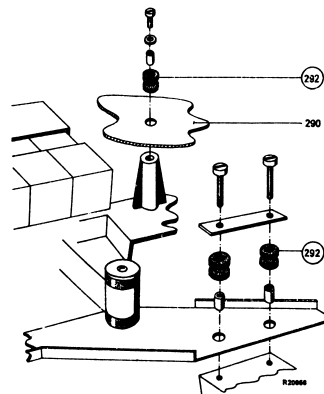

Fig 3b
The chassis and the cover plate have been fitted in a different way in order to reduce mechanical vibrations of the recorder. The front of the chassis has been fitted with four rubber supporting pieces (292); the cover plate 290 of the chassis with three, see fig. 3b. The rubber pieces are supplied under code number WRB 905 TU/8x1.